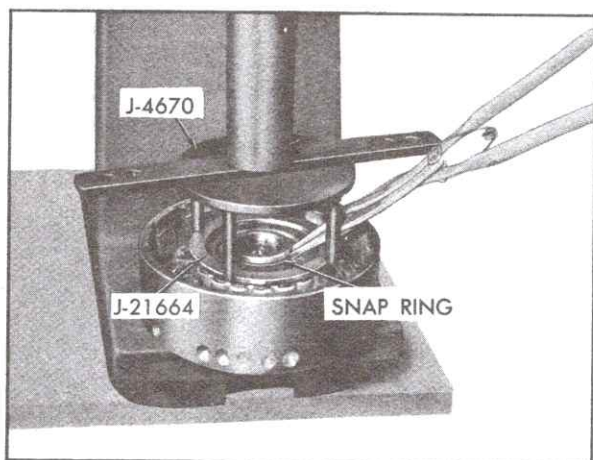

Fig. 7-187 Removing and Installing Forward Clutch Housing Snap Ring
and Adapter, J-21664, compress spring retainer with arbor press and remove snap ring using Snap Ring Pliers, J-8059 or J-5586, Fig. 7-187.
f. Using Clutch Spring Compressor, J-4670, and Adapter, J-21664, compress spring retainer with arbor press, being careful that retainer does not catch in snap ring groove, and install snap ring using Snap Ring Pliers, J-8059 or J-5586, Fig. 7-187 and remove tools.